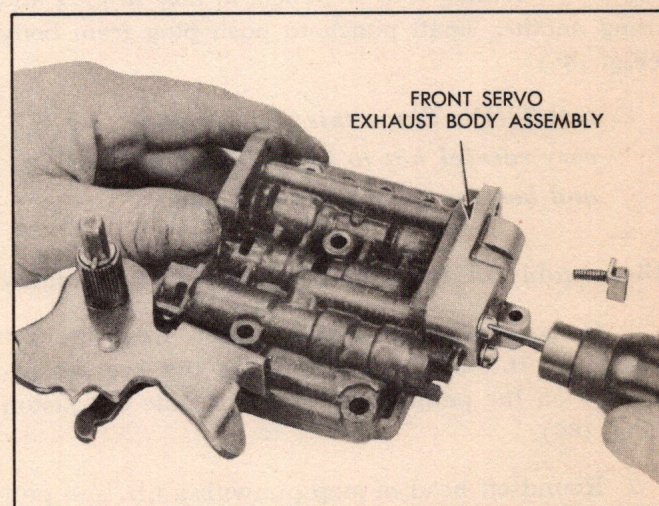

Fig. 182—Removing Front Servo Exhaust Body Assembly
14. Remove three screws holding front servo exhaust body over compensator valve and detent plug in outer valve body (Fig. 182). Remove front servo exhaust body and spacer.